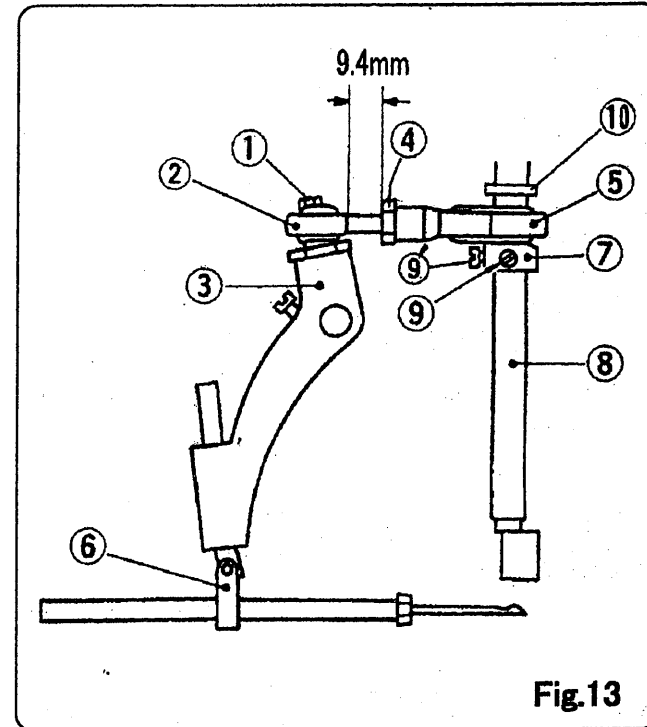
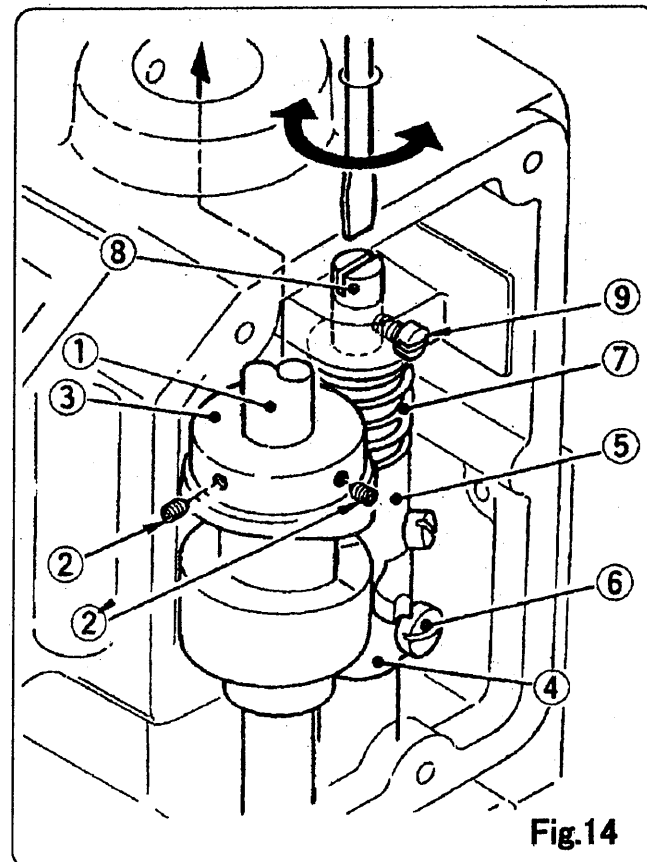

Fig.13
Fig.14
For replacement or adjustment of Ball Rod, refer to Fig.13. Take out Screw ① and disconnect Rod End ② from Needle Bar Lever ③. After loosening the Nut ④, adjust the clearance between Connecting Rod ⑤ and Rod End ②, so that Needle Bar moves in the center of the clearance between the upper and lower Presser Bar Bushings. (Needle Bar stroke is 37 mm).
The position of Needle is adjusted so that the distance between the point of Needle (at its highest position) and Throat Plate is 13 mm, after loosening screw on Needle Bar Connection Assembly ⑥ in Fig.13.
- ① Screw 11/64S40084
- ② Rod End 6A04001
- ③ Needle Bar Lever 242051A
- ④ Nut 1N8
- ⑤ Connecting Rod Assembly 242011A
- ⑥ Needle Bar Connection Assembly 242101A
- ⑦ Eccentric Cam (part of Connecting Rod Assembly) 242011
- ⑧ Main Shaft 241102
- ⑨ ⑨' Screw 11/64S40001
- ⑩ Spacer 241161
Adjust Looper Drive Cam ③ When necessary as follows: (Refer to Fig.14.).
- a) Apply the Screws ② and ②' on the taper of Main Shaft ①.
- b) Adjust Arm (B) ④, so that Looper Drive Cam ③ and Arm (A) ⑤ move smoothly. After adjusting, fix the Screw ⑥ tightly.
- c) The clearance between Looper Drive Cam ③ and Arm ⑤ is effected by Spring ⑦. Loosen Screw ⑨ and turn Spring Supporter ⑧ to adjust the pressure of Spring ⑦. After adjusting, tighten the Screw ⑨ to fasten Spring Supporter ⑧.
- ① Main Shaft 241102
- ② ②' Screw 15/64S28524
- ③ Looper Drive Cam 243012
- ④ Looper Rocker Shaft Arm (B) 243081
- ⑤ Looper Rocker Shaft Arm (A) 243071
- ⑥ Screw for Looper Rocker Shaft Arm (B) 11/64S40009
- ⑦ Spring 243131